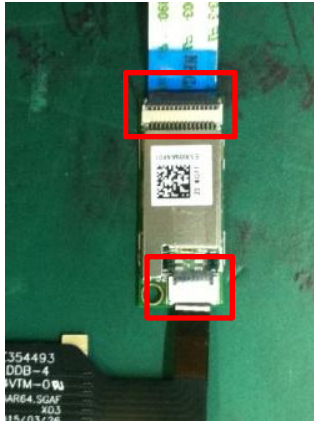

Fig.3
3. Disassemble NFC module, then disconnect FFC from NFC module.(Fig.2/Fig.3)